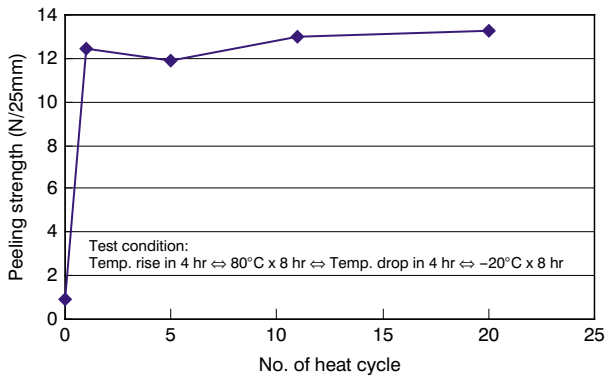

Figure 4 Adhesion strength of FoamAceEco against heat cycles.
- The adhesion property is stabilized as shown in Figure 4. The peeling strength becomes even higher than the initial value after the heat cycle test of in-house method: Temperature rise in 4 hr \leftrightarrow 80°C \times 8 hr \leftrightarrow Temperature drop in 4 hr \leftrightarrow -20°C \times 8 hr.